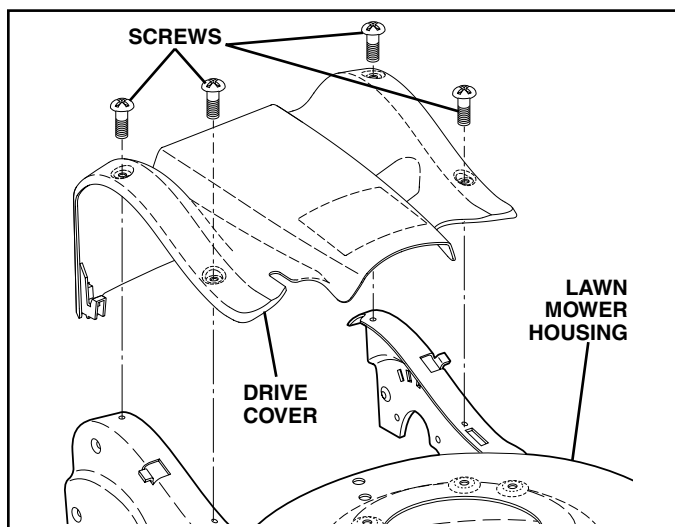

FIG. 17
TO REMOVE DRIVE BELT (See Figs. 17–19)
2. Remove screws retaining drive cover and remove drive cover from lawn mower housing (See Fig. 17).
TO REPLACE DRIVE BELT (See Figs. 17–20)
11. Reattach drive cover with screws previously removed (See Fig. 17).